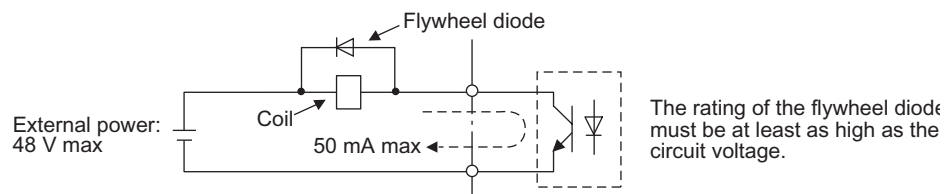

Fig 2.17 Flywheel Diode Connection
- * 2. When driving a reactive load such as a relay coil, always insert a flywheel diode as shown in Fig 2.17.